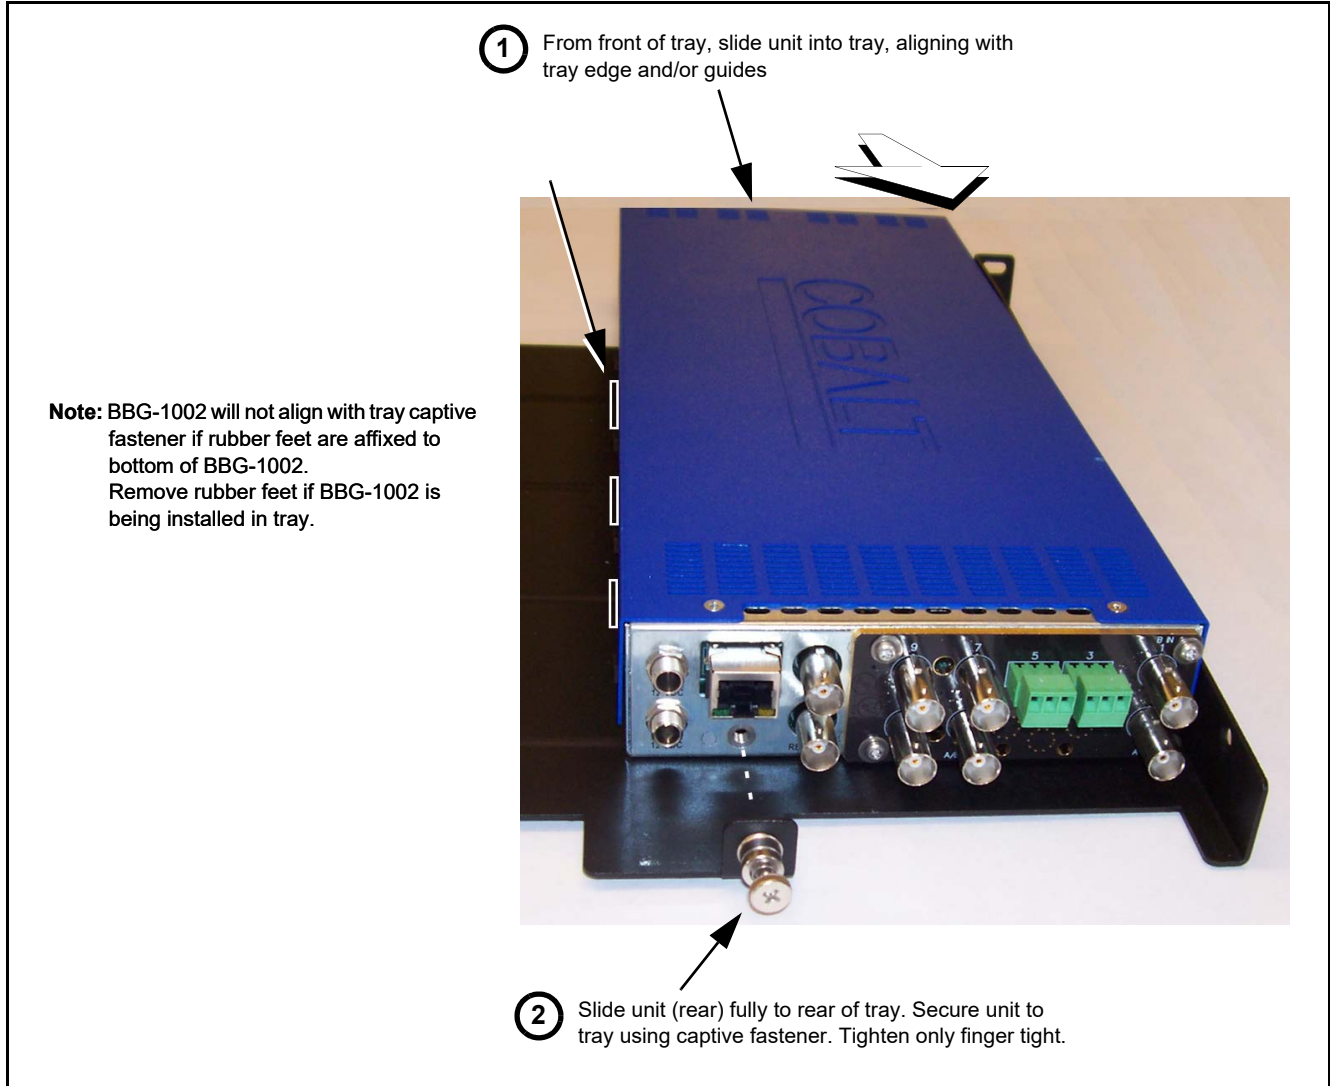

Figure 2-1 Mounting BBG-1002-UDX-DSP Using Frame Mounting Tray
1. If installing BBG-1002-UDX-DSP using optional frame Mounting Tray BBG-1000-TRAY, install BBG-1002-UDX-DSP in tray as shown in Figure 2-1.